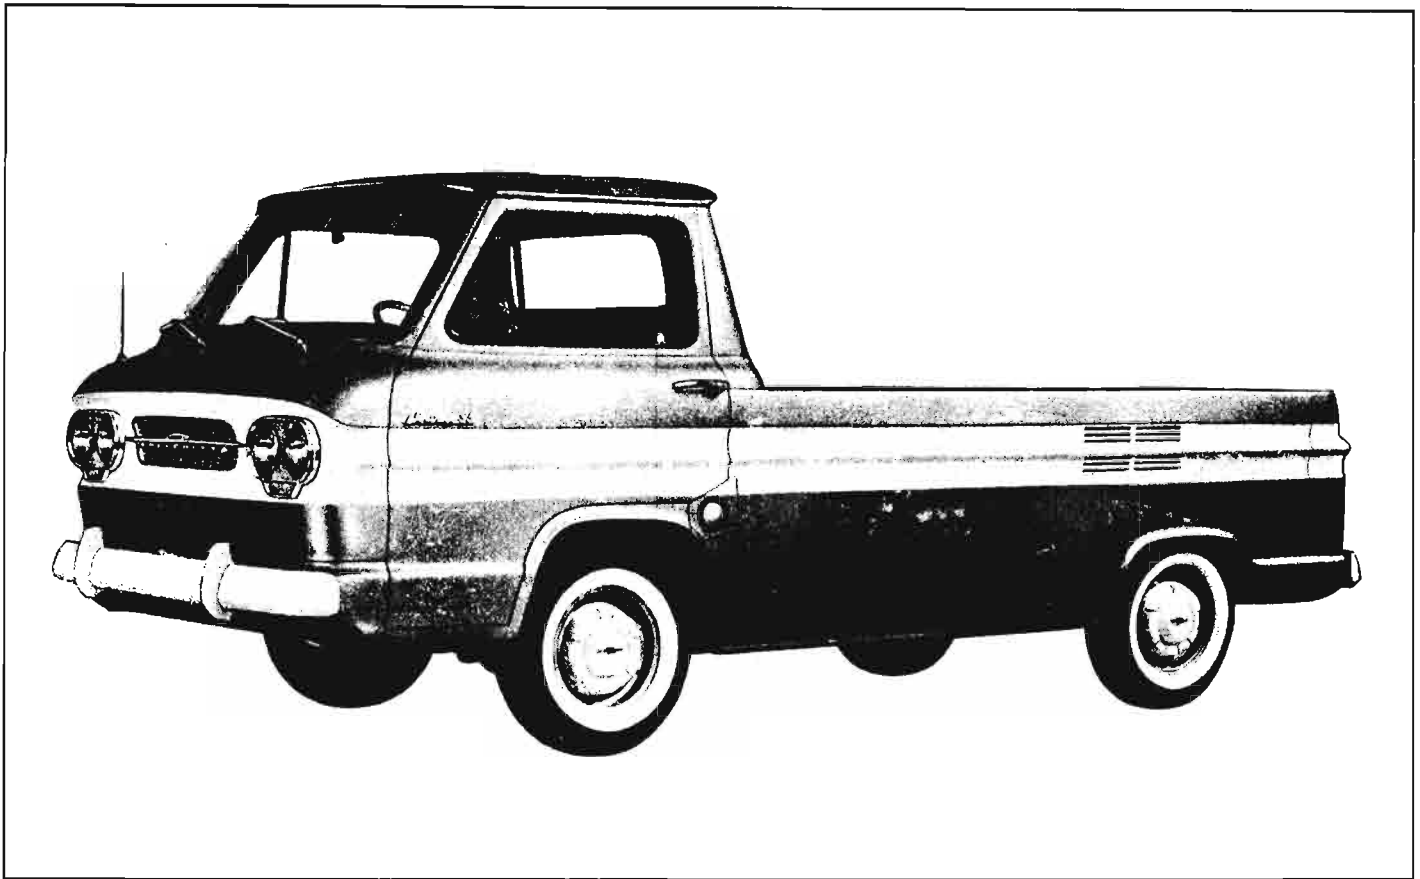

Fig. 10-3a—Loadside Pickup—Model—R-1244
- Loadside pickup, model R-1244 (fig. 10-3a) incorporates a cab and pickup box. The cab lower rear panel is bolted and welded to the underbody at the jointure of the front and rear underbodies. The pickup box side assemblies are added to this sub-assembly, then the basic Corvair 95 series front end structure. The cab upper rear panel is comprised of an inner and outer panel which is bolted and welded